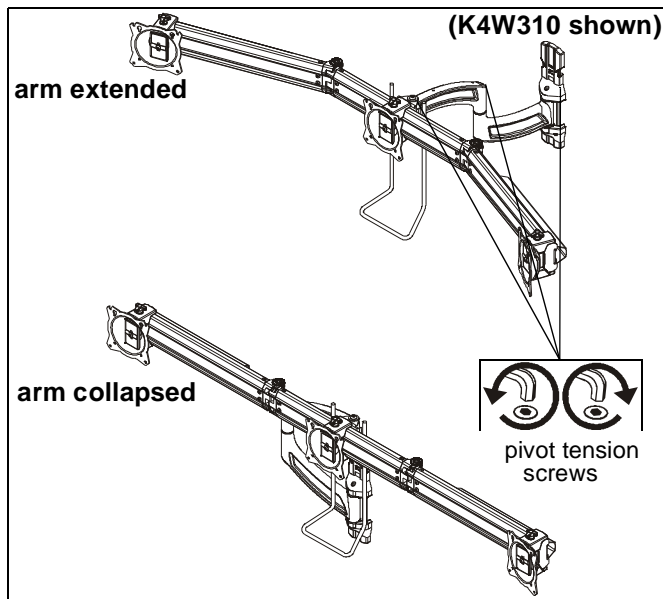

Figure 20
1. Use handle to extend or collapse column arm (Z) as desired. (See Figure 20)
2. (Optional) Loosen or tighten column arm pivot tension screws as desired to increase or decrease pivot tension. (See Figure 20)